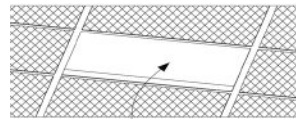

Fig. 1
1. Replace the existing lighting fixture with LED panel (Fig. 1)